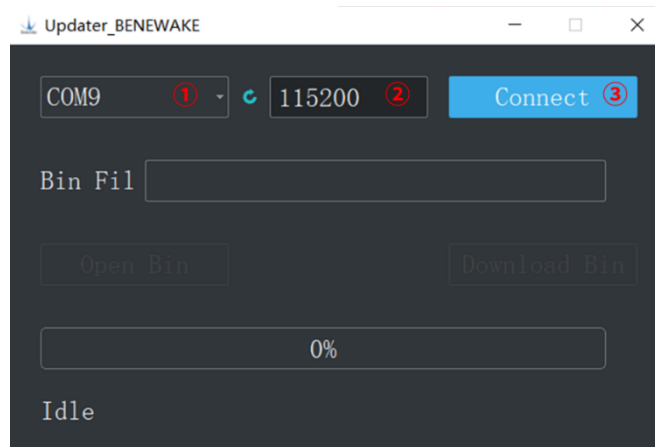

Figure 6-1 Connect the TF02-Pro-W with the software
- 1) Run Updater_BENEWAKE.exe, Select right port, here is “①COM9”. Input the right baud rate in “② 115200” and click “③ CONNECT” to connect the TF02-Pro-W with the software. As shown in Figure 6-1.